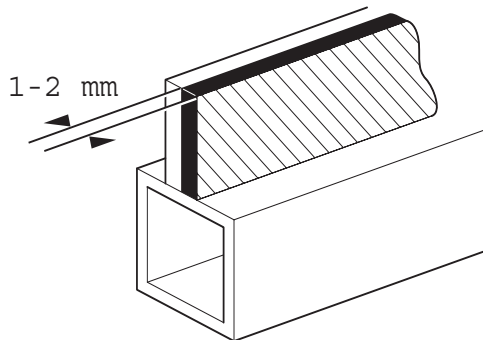

Fig 25.
- 5 If necessary, trim off the remaining old sealant to leave approximately 1 to 2 mm on the upright face of the cab frame aperture. → Fig 25. (□ B-46)